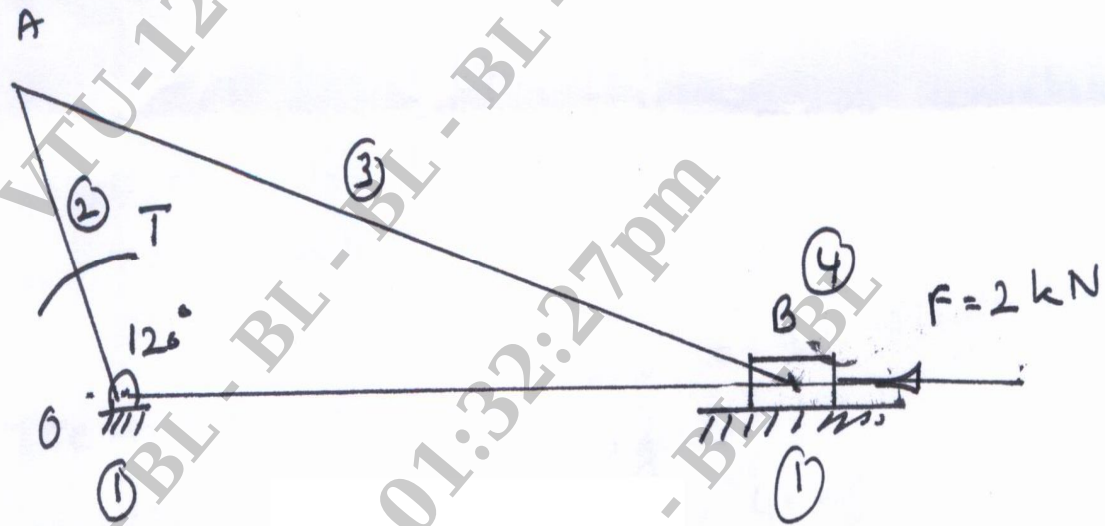

Fig. Q1 (b)
- b. A slider crank mechanism with the following dimensions is acted upon by a Force $F = 2 \text{ kN}$ at B as shown in Fig. Q1 (b). $OA = 100 \text{ mm}$, $AB = 450 \text{ mm}$. Determine the input torque T on the link OA for the static equilibrium of the mechanism for the given configuration.